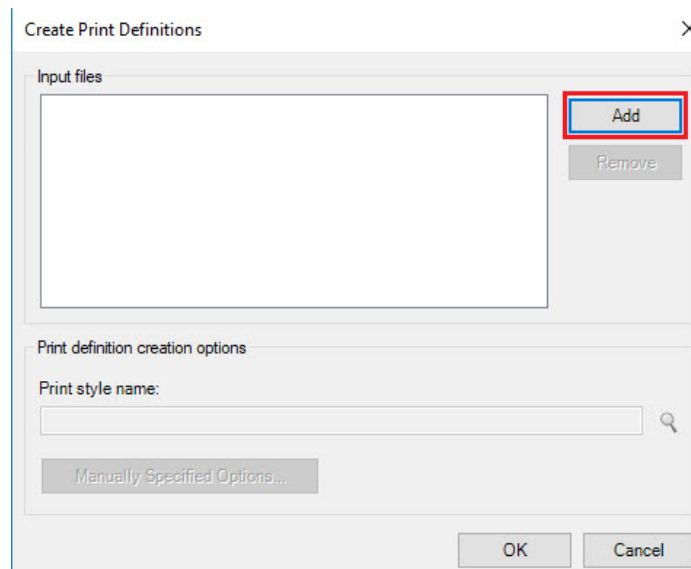

Figure 22 Create Print Definitions Dialog ADD"
The Create Print Definitions dialog box will appear where you will add the DEED file to create the list of models. (figure 22 below)
Step 4. Double click on the DEED file name you are working on which will put it in the list of Input Files in the *Create Print Definitions* dialog box (Figure 22 above)
Step 9. Double click on the PCM file name you are working on which will put it in the list of Input Files in the *Create Print Definitions* dialog box (Figure 22 above)